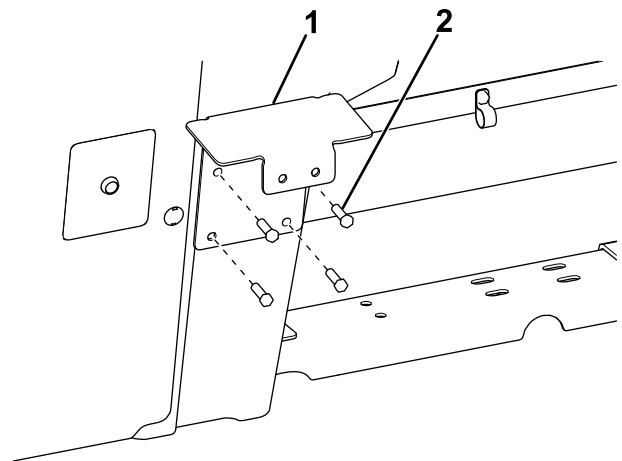

Figure 33
1. For the Forge spreaders, continue to step 4. For VBX spreaders, line up the filter bracket with the edge of the rear cover and mount it to the hopper with 4 bolts (5/16 inch) as shown in Figure 33.